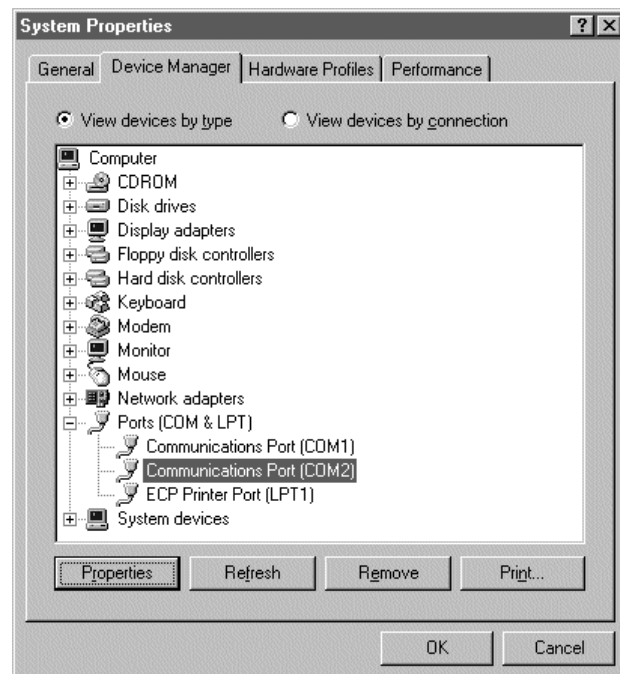

Figure 8-5: System Properties Dialog Box
6. The relevant screen is shown in Figure 8-5.